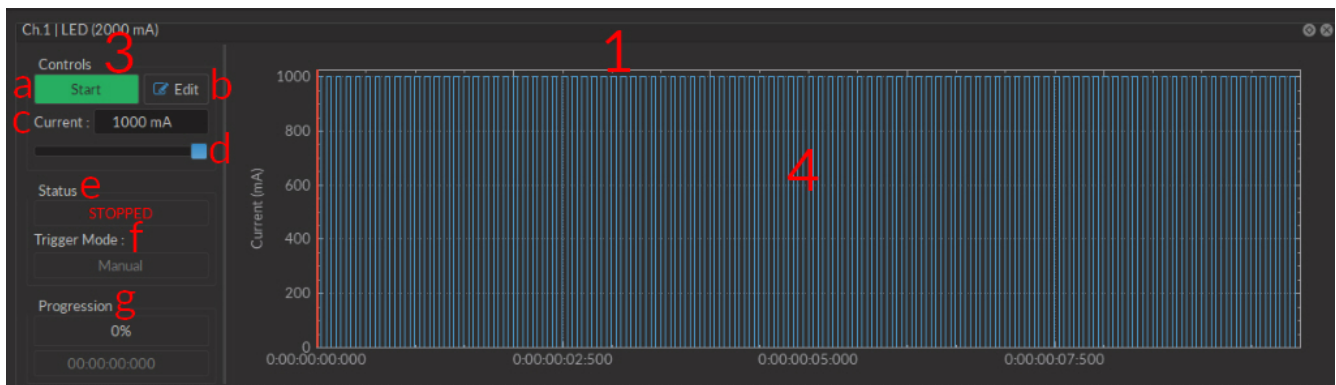

Figure 4.13: Experiment View, Light Source Channel
1. The **Light Source Channel** box (Fig. 4.13) contains all elements related to a single light source channel.